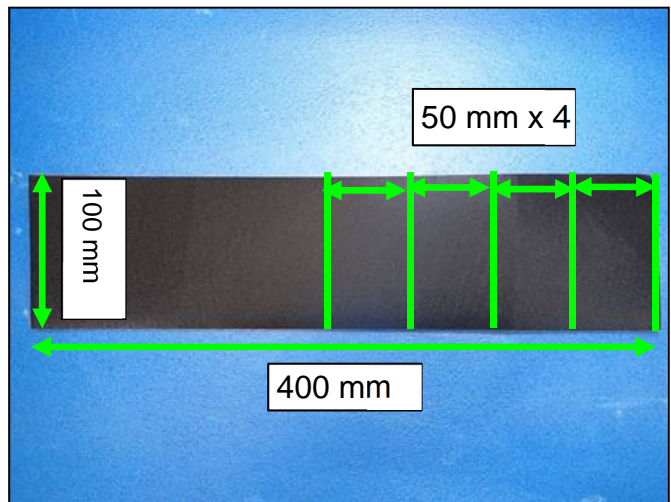
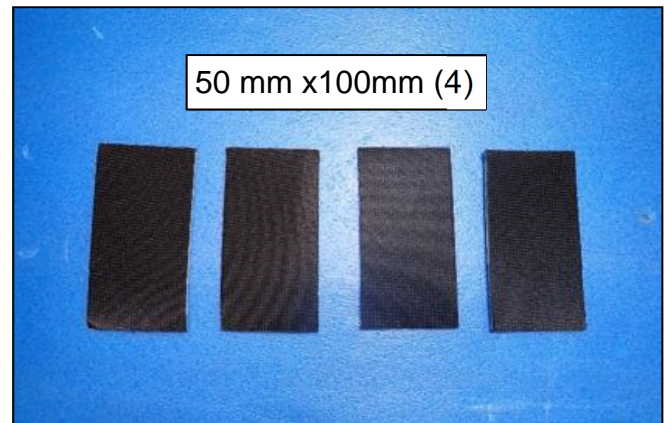

Figure 18
Figure 19
14. Prepare the protective tape cover (B4271-U0100) as shown in Figure 18 and Figure 19.
- Cut four (4) 50 mm strips from the protective tape cover.